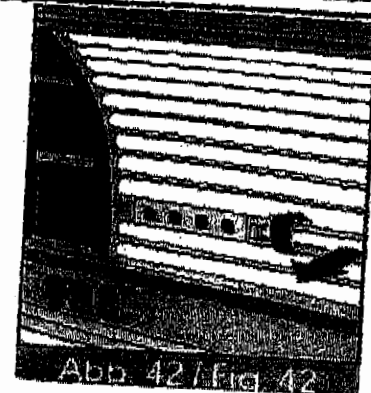

Abb. 42 / Fig. 42
- The lamp for the indirect lighting can now be seen and can be replaced with an identical one. (see Fig. 42)